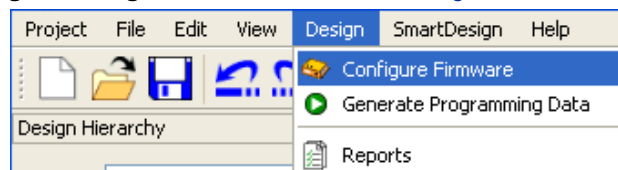

Figure 52 · Opening Design_Firmware
3. Click **Design > Configure Firmware** as shown in Figure 52 .